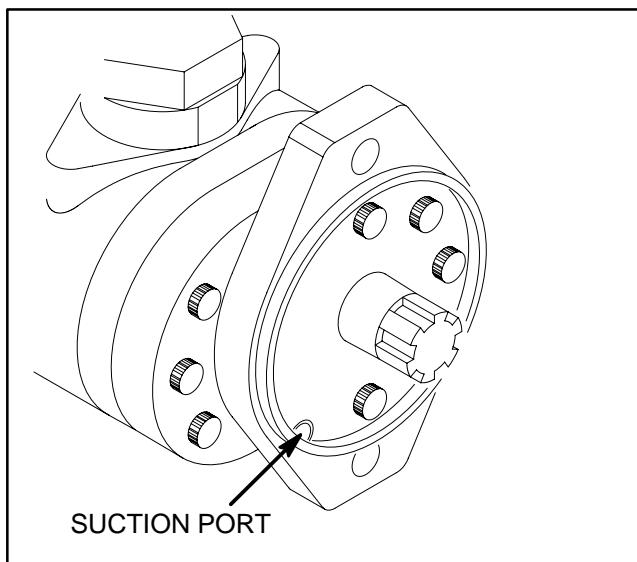

Figure 20
6. Clamp pump inlet hose (24) to prevent draining the hydraulic reservoir.
7. Remove both socket head screws (20) and flat washers (19) from the gear pump (28) flange and hydrostat (16).
8. Separate gear pump (28) from the hydrostat (16).
9. Plug suction port at the end of the gear pump to prevent possible leakage of hydraulic fluid (Fig. 20).
10. Remove O-ring (2) from either the gear pump (28) or hydrostat (16).
9. Remove plug from the suction port on the gear pump (Fig. 20). Install O-ring (2) to the pump.
10. Position gear motor (28) to the hydrostat (16) so that the pump inlet is facing up. Secure gear pump to the hydrostat with both hex socket head screws (20) and flat washers (19). Torque screws from 27 to 31 ft-lb (3.7 to 4.3 kg-m).
11. Remove clamp from pump inlet hose (24).